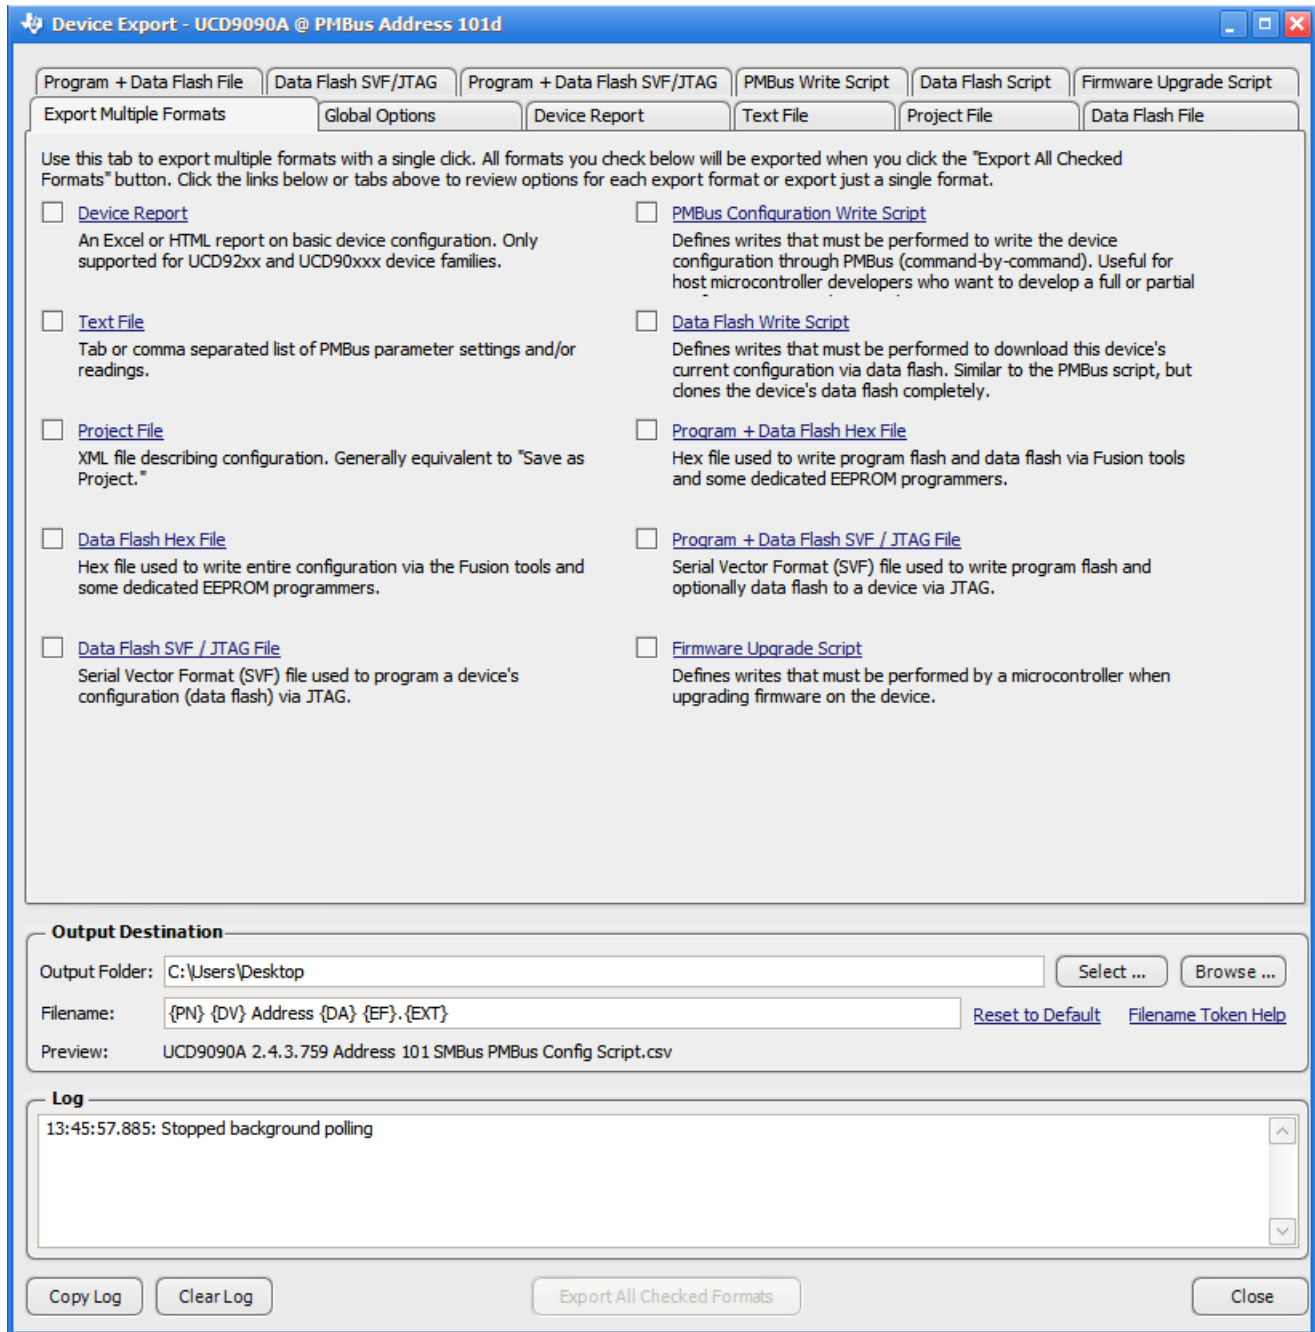

Figure 34. Fusion GUI Device Configuration Export Tool
- Another in-circuit programming option is for the *Fusion GUI* to create a data flash image from the configuration file (Figure 34). The configuration files can be exported in Intel Hex, Serial Vector Format (SVF) and S-record. The image file can be downloaded into the device using I2C or JTAG. The *Fusion GUI* tools can be used on-board if the *Fusion GUI* can gain ownership of the target board I2C bus.